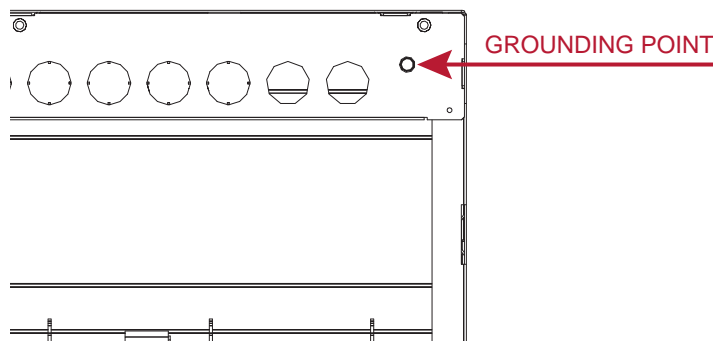

Figure 4-4 Connecting the Frame Ground
1. Connect the grounding cable with a minimum cross sectional area of 16mm² between the earth grounding point at the top-rear of the cabinet and the Main Earth Terminal (MET) of the site. See Figure 4-4.